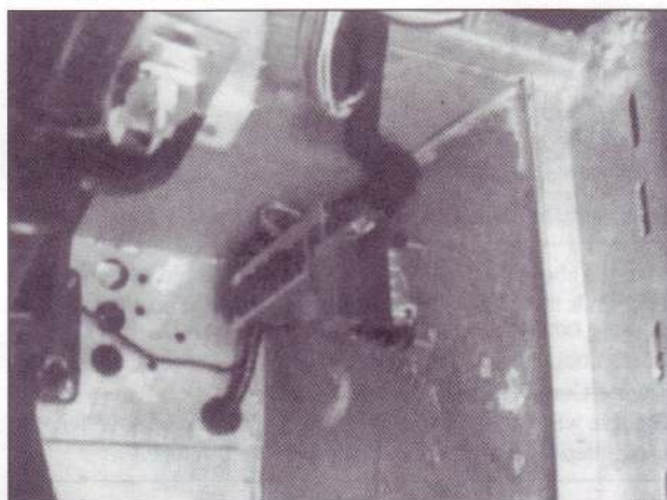

Fig.6c. Wiring routed down chassis rail.
4. Route the loom down the offside chassis rail as shown in fig.6c, then across to the nearside in the vicinity of the front of the engine then back down the nearside chassis rail toward the nearside bulkhead.